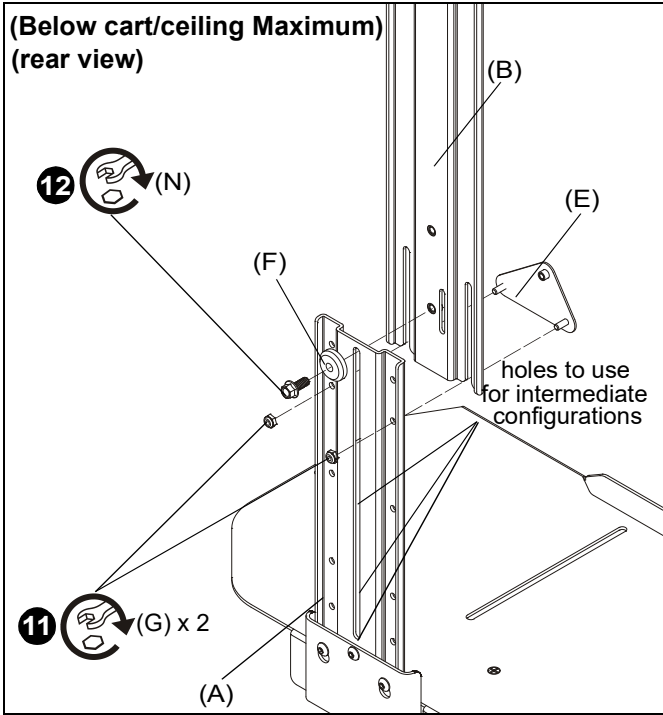

Figure 11
11. (For **maximum/intermediate extension**) Use two #10-24 lock nuts (G) to secure upright bracket (A) to main bracket (B) and adapter plate (E). (See Figure 11)
12. (For **maximum/intermediate extension**) Use 1/4-20 x 5/8" hex head flange bolt (N) and center washer (F) to secure upright bracket (A) to main bracket (B). (See Figure 11)